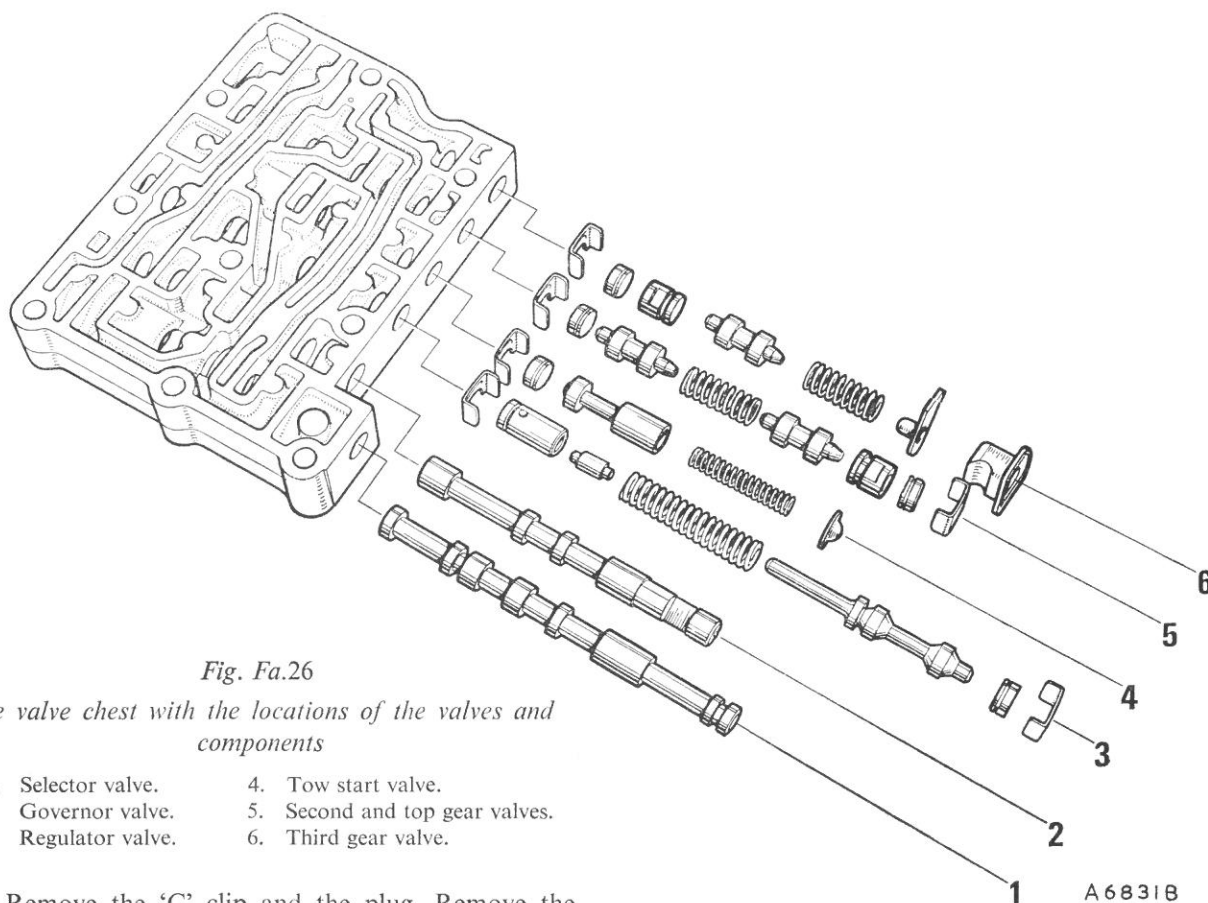
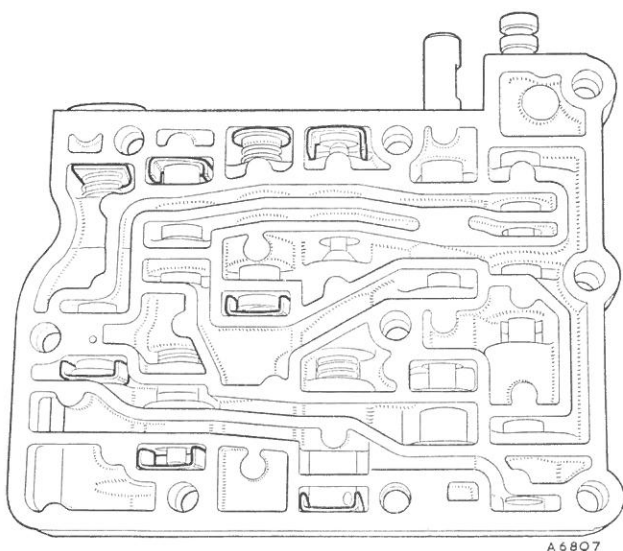

Fig. Fa.26
Fig. Fa.27
- (13) Reassemble each valve assembly in the reverse order of dismantling (see Fig. Fa.26). Check that the 'C' clips and plugs are correctly located in the valve chest (see Fig. Fa.27).